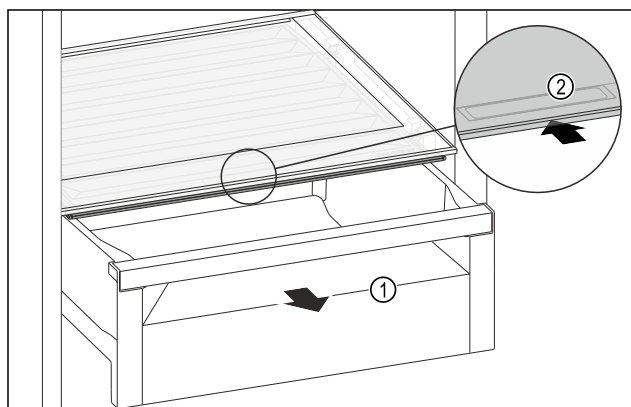

Fig. 146
- ▶ Pull out the drawer *Fig. 146 (1)*.
- ▶ Grasp the recessed grip *Fig. 146 (2)* on the compartment lid and push the compartment lid backwards at the same time.